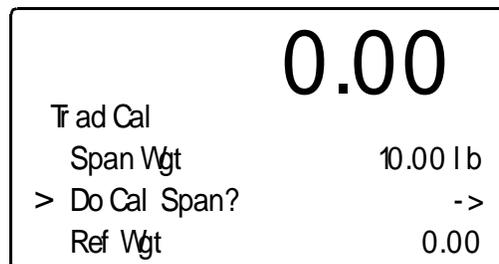

FIG. 2-12 TRADITIONAL CALIBRATION/SPAN CALIBRATION
Step 17. Press the “-” button until the cursor is in front of the Do Span Cal?. (See Fig. 2-12)